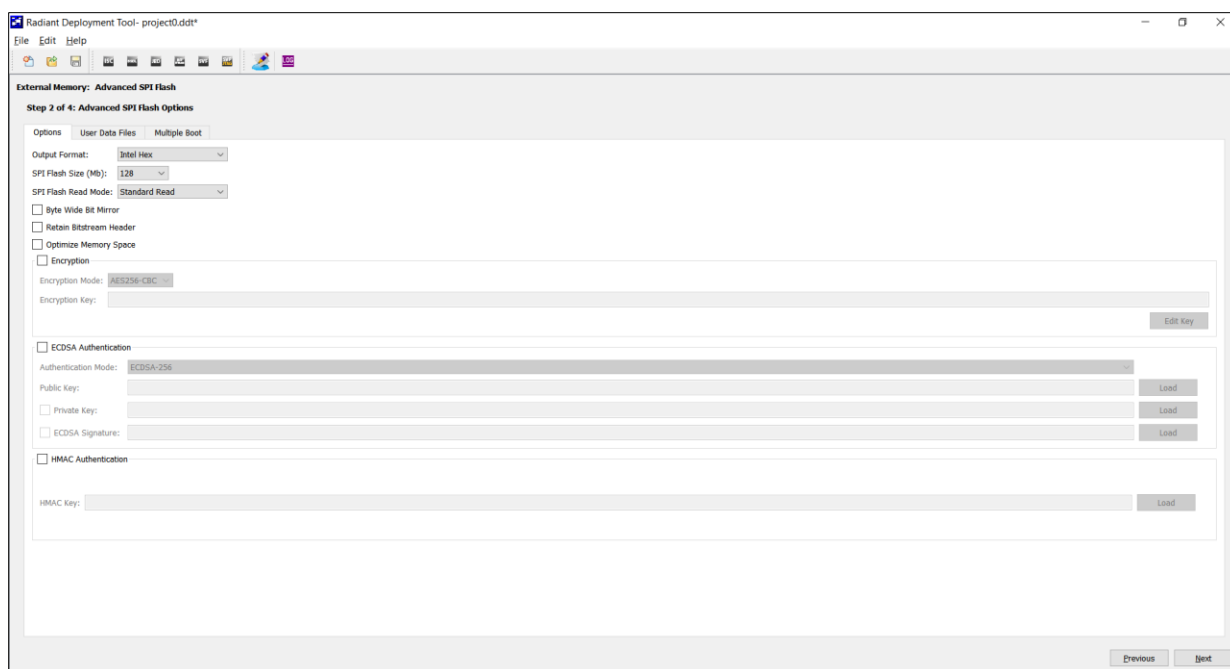

Figure 6.7. Options Tab of Step 2 of 4: Advanced SPI Flash Option
- b. In Step 2 of 4: Advanced SPI Flash Option (Options tab), select the following options (Figure 6.7):